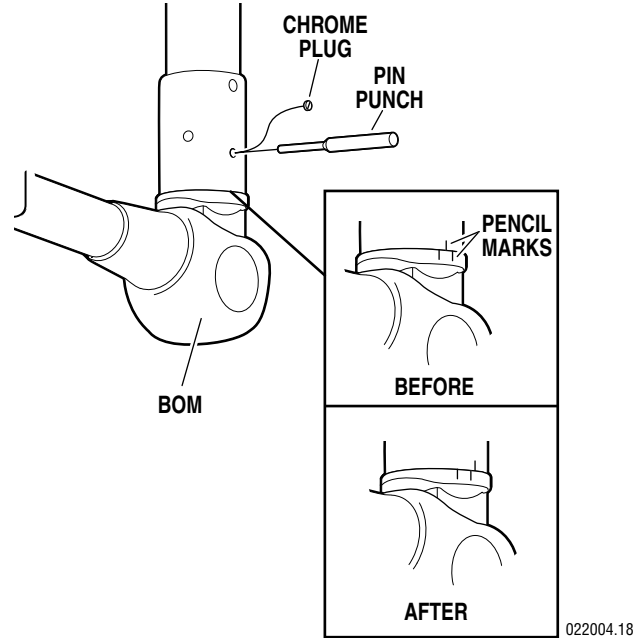

Figure 4-11. Horizontal Rotation Adjustment
c. If releveling the mounting plate or lubricating the BOM needle bearings does not correct the problem, an adjustment may be required. This adjustment is made by increasing or decreasing the bearing preload. Refer to figure 4-11 and proceed as follows:
g. To determine the amount of adjustment, rotate the lighthead so the pin punch is touching one side of the adjustment hole and use a pencil to mark a reference line as shown in figure 4-11. Rotate the lighthead so the pin punch is touching the other side of the adjustment hole and mark another reference line as shown in figure 4-11.